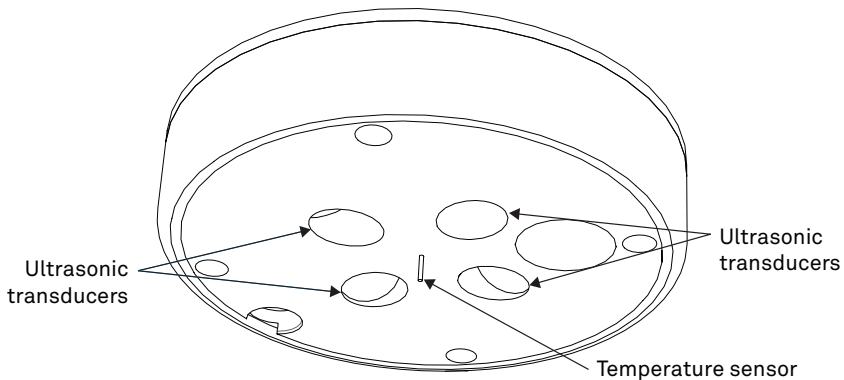

Figure 36 Temperature sensor and ultrasonic transducers
- a. Ultrasonic transducer openings (Figure 36)